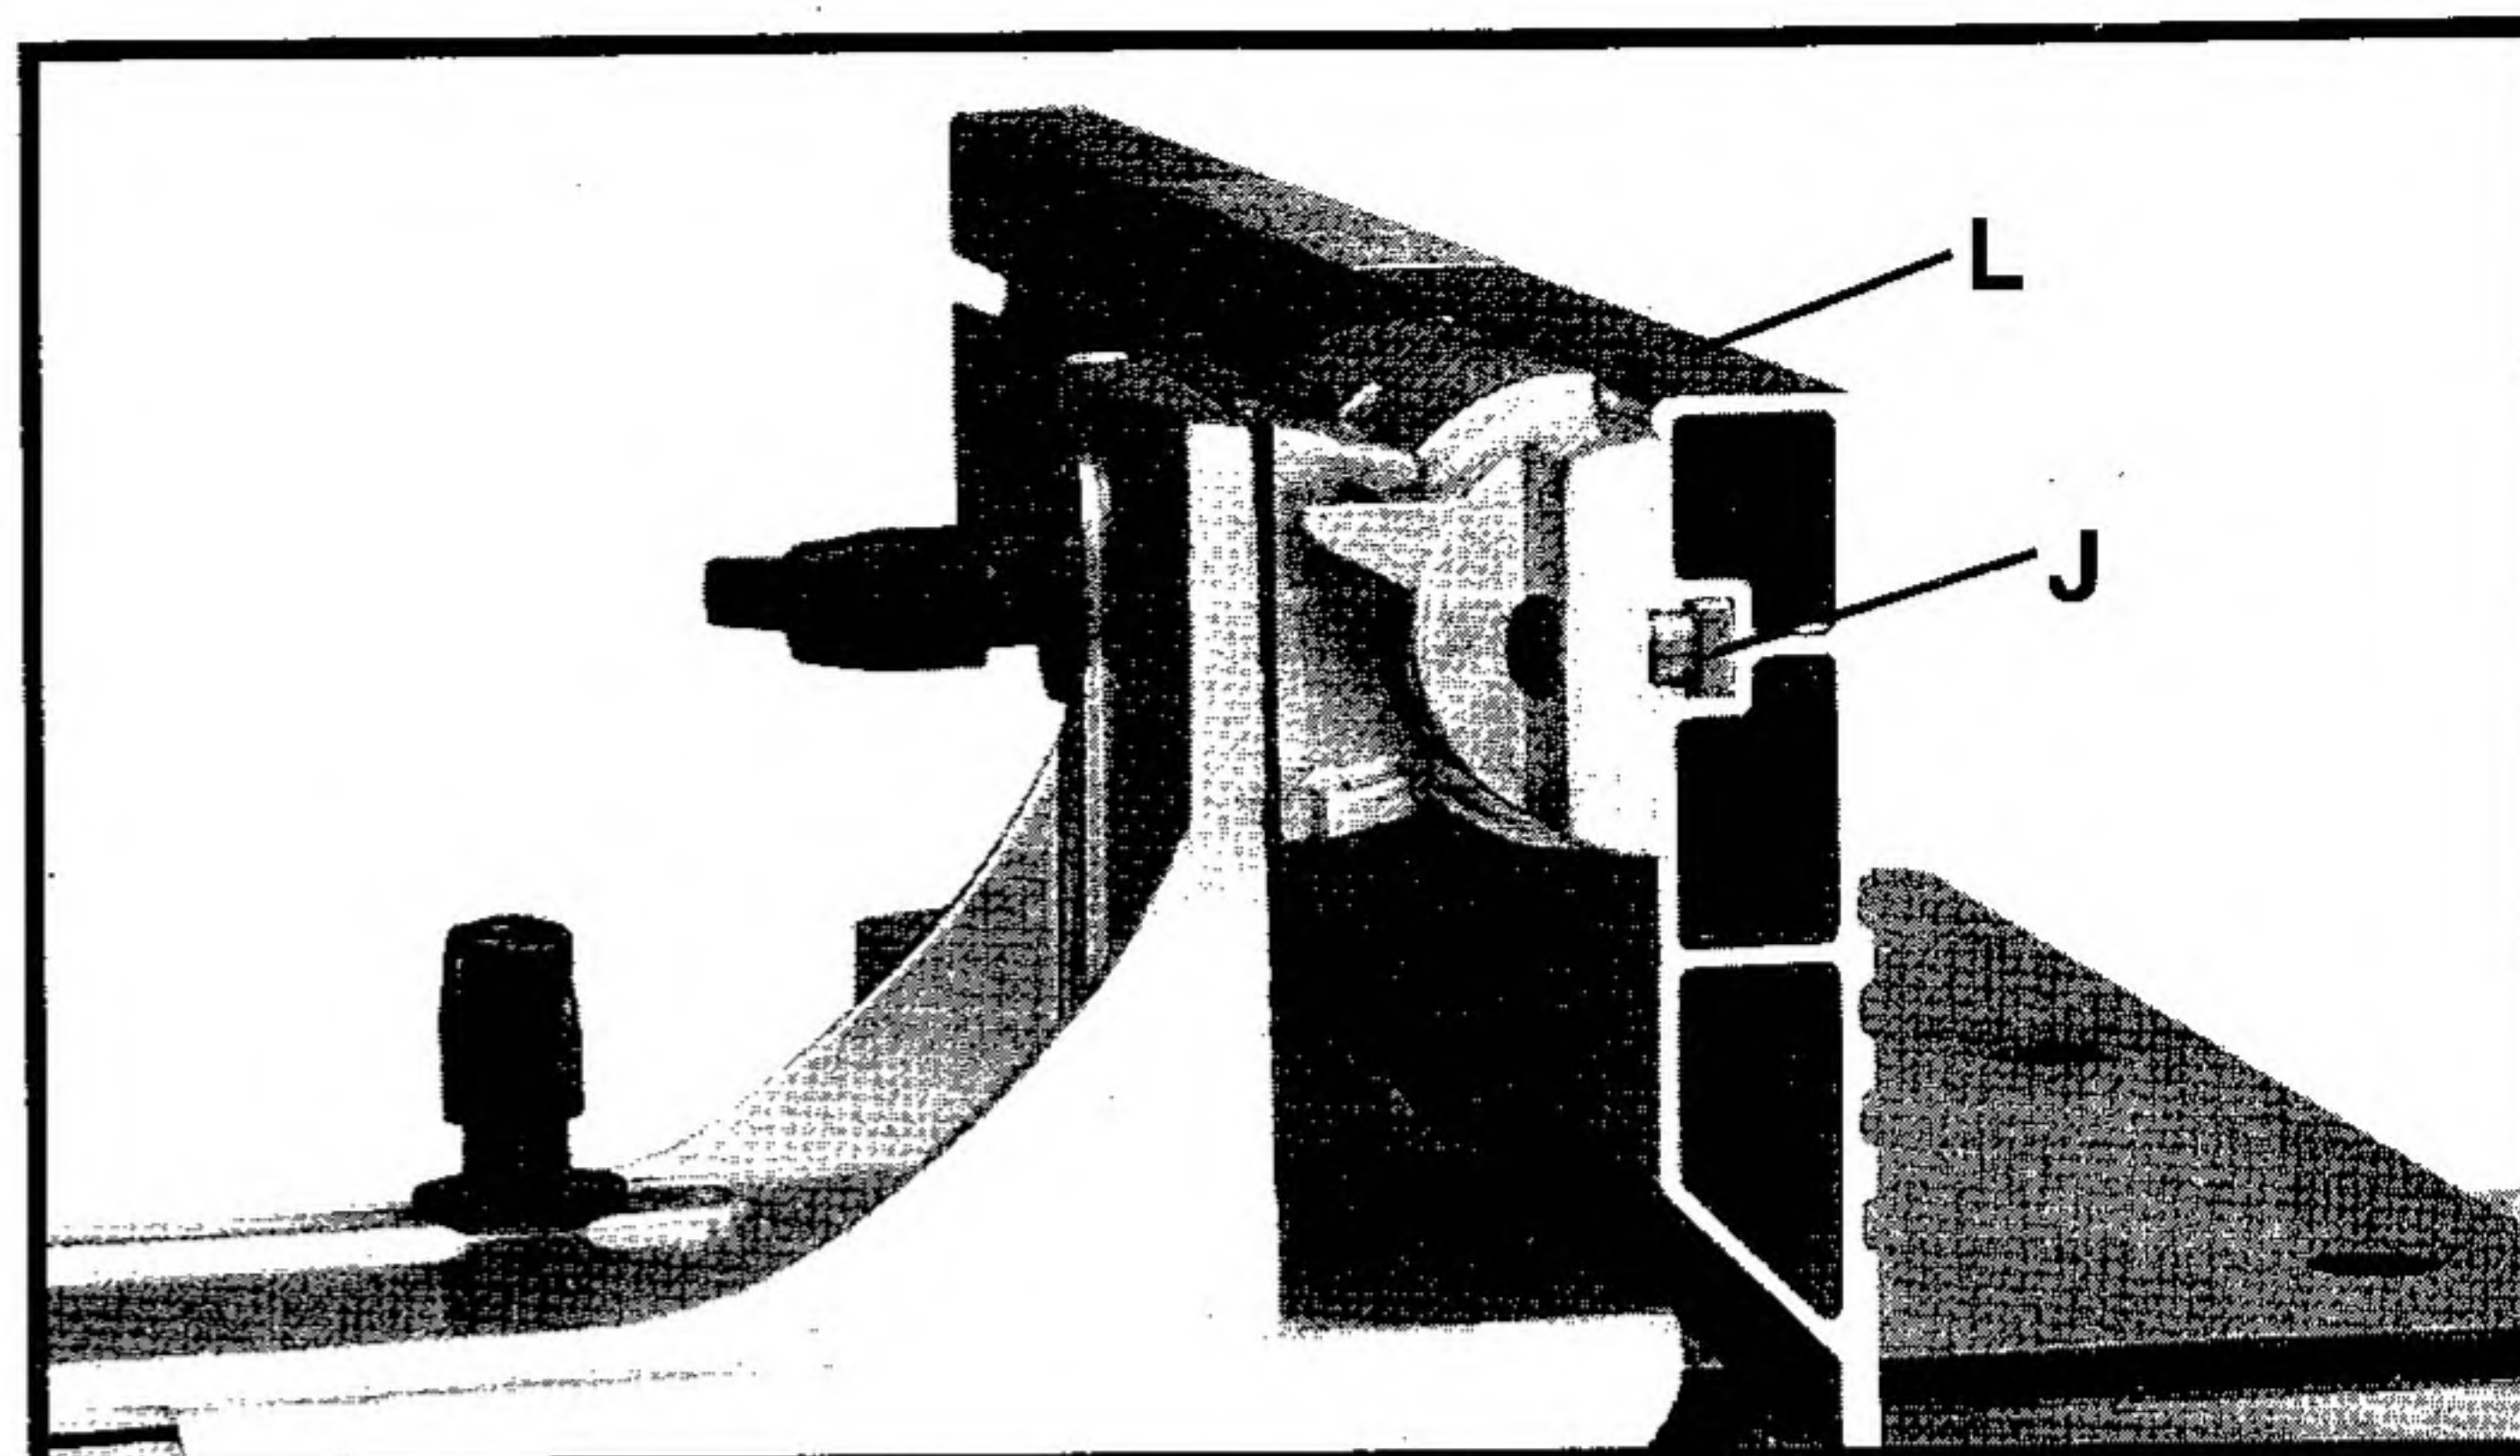

Fig. 10
4. Slide groove of fence (L) Fig. 10 over square nuts (J).